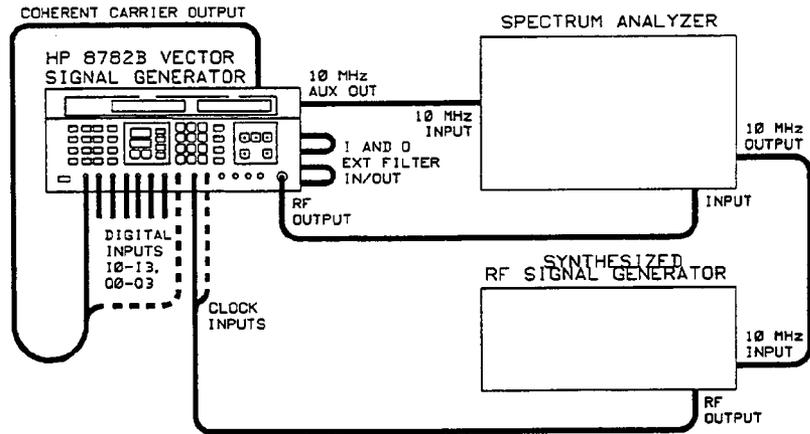

Figure 5-12. Parallel Clock Data Rate Test Setup
2. Connect a cable from the Vector Signal Generator's rear panel coherent carrier as shown in Figure 5-12.
3. Connect the rear panel 10 MHz auxiliary output of the vector signal generator to the external 10 MHz input of the spectrum analyzer. Connect the 10 MHz output of the spectrum analyzer to the 10 MHz input of the RF signal generator. Select external 10 MHz reference for both the spectrum analyzer and RF signal generator. This arrangement puts all three instruments on a common time base. See Figure 5-12.
17. The performance test setup for Dual Clock Data Rate is the same as Single Clock Data Rate. See Figure 5-12.